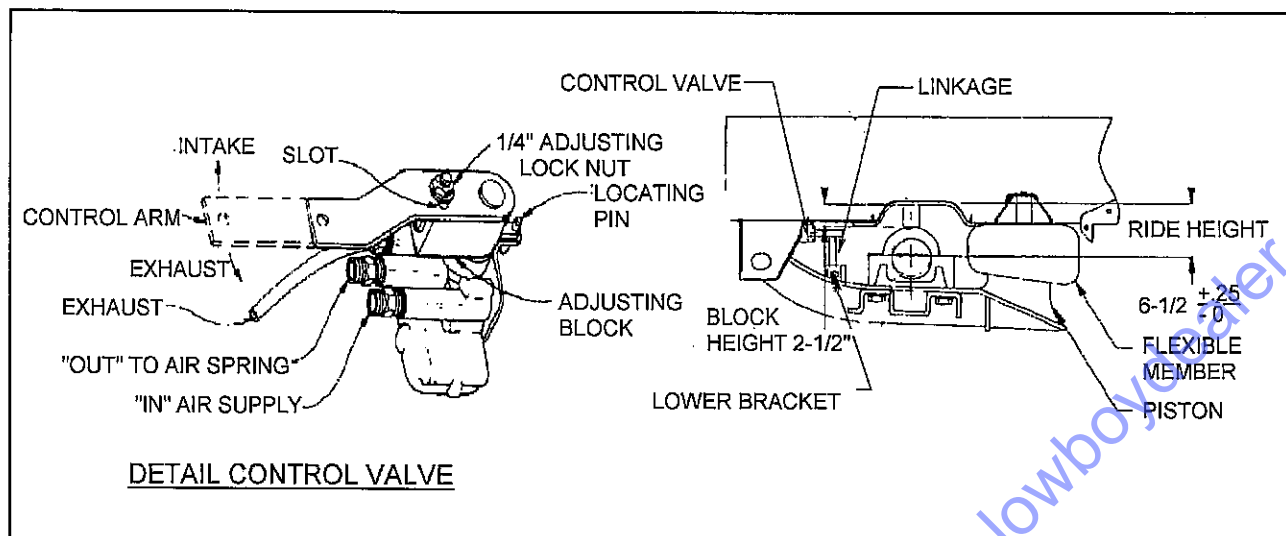

Figure 4-4 Air Ride Height Adjustment
**4-7.1 Air Ride Height Adjustment.** (See Figure 4-4 for parts identification).
e. Move the control arms to the "down" position (about 45°) for 10-15 seconds. Slowly return the control arms to the center position and insert locating pins into the adjusting block and bracket on the automatic height control valves (see Figure 4-4).